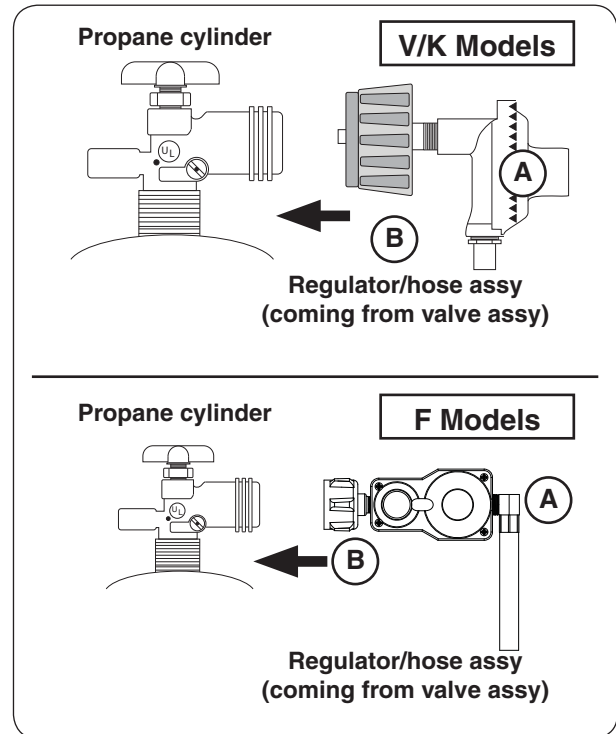

Fig. 30-2 Connecting to an L.P. cylinder
4. Attach the regulator end of the hose assembly to a propane cylinder (not included) and tighten (see Fig. 30-2).